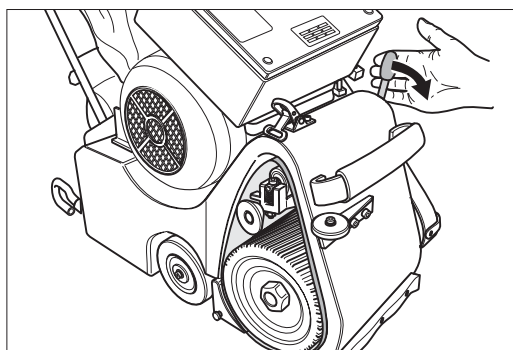

Fig. 14 Never forget to retension the sanding belt. Otherwise, damage or injury can occur!
- 6 To tension the sanding belt, press the tensioning lever downwards (Fig. 14).
- 6 If you wish to remove the tensioning roller of the drive unit (Section 6.6.2, *Exchanging the tensioning roller*), press the operating lever for the drive unit downwards (Fig. 14).